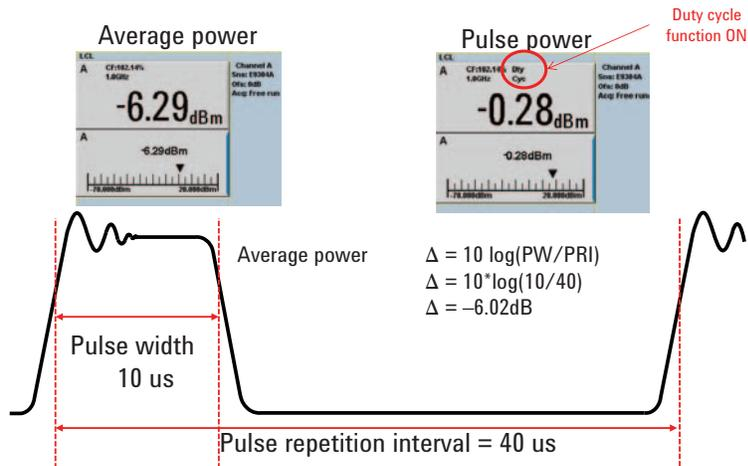

Figure 12. Calculating pulse power using the duty cycle method
Figure 12 shows the measurement of a pulse signal with a pulse width (PW) of 10 μs and a pulse period (pulse repetition interval or PRI) of 40 μs . The signal is set with a power level of approximately 0 dBm. Using an average power meter to measure the average power of the signal gives a result of -6.29 dBm. The duty cycle, which is PW/PRI or 10 μs divided by 40 μs , equal to 25%. This value is entered into the power meter to obtain a pulse reading of -0.28 dBm.
The equation shown in Figure 12 is used by the power meter to calculate the difference between pulse power and measured average power. The result is a value in which the pulse power is 6.02 dB higher than the average power. As the figure suggests, however, the pulse may not be purely rectangular. There is an associated rise and fall time as well as possible overshoot on the signal. The combination of these effects will create an error in the calculated result. A more accurate method of determining the peak power in this case is with a peak power meter.